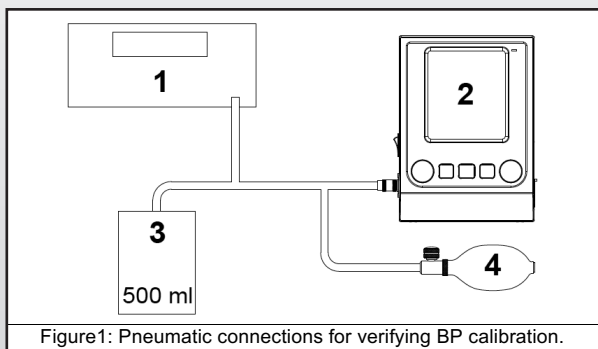

Figure1: Pneumatic connections for verifying BP calibration.
- 9.4.1.6 Make the necessary connections using the materials listed in the Equipment Required list. See Figure 1 for pneumatic connections.